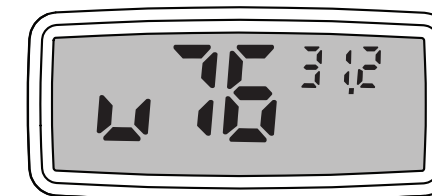

Figure 13 Calibration Mode screen
4. Press the II button (on the right) once to get the Calibration Mode screen (Figure 13).
Figure 13 shows that the water activity meter is ready to have its calibration adjusted up for the 0.76 standard. The number in the upper right corner indicates the water activity measurement that the water activity meter just read. Press the II button to scroll through the other selections. They are: u76, d76, u25, d25, Sto, u92, and d92. The u and d before each number stand for **up** or **down** adjustment for each standard. The numbers (25, 76, and 92) correspond to the water activity of a verification standard (0.76, 0.25, and 0.92 a_w). The Sto position stores a reading.